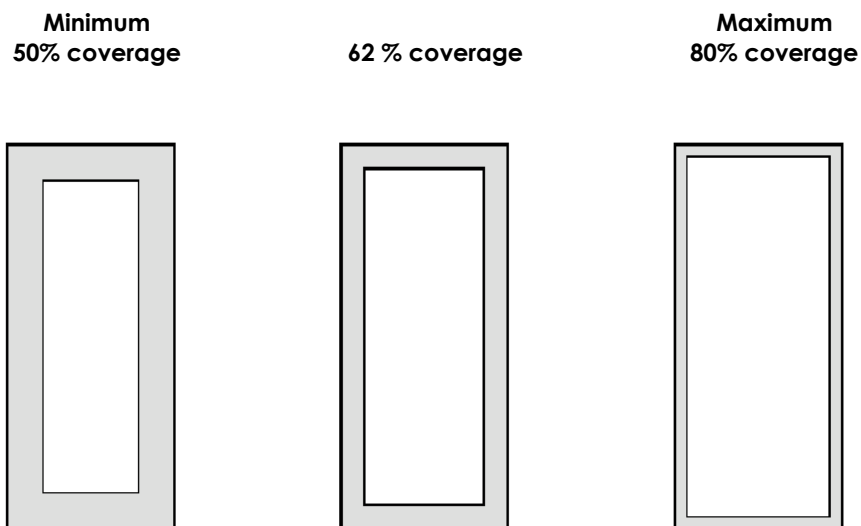

Figure 11: Solder paste application on pins
4. The aperture opening for the signal pads should be between 50-80% of the QFN pad area as shown in Figure 11.